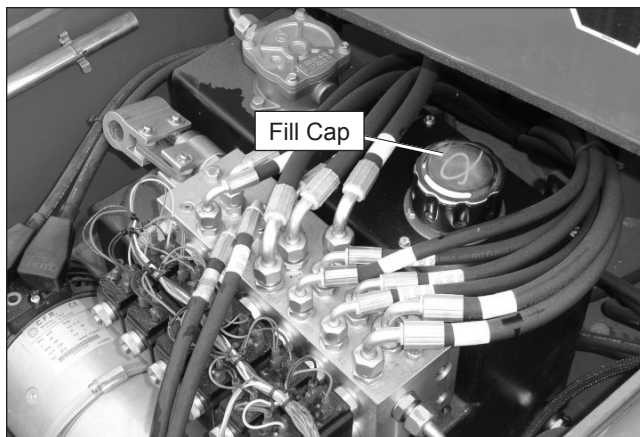

Figure 8.6 – Hydraulic Fluid Gauge
3. Visually check to make sure the fluid is visible in the sight glass (refer to Figures 8.6).